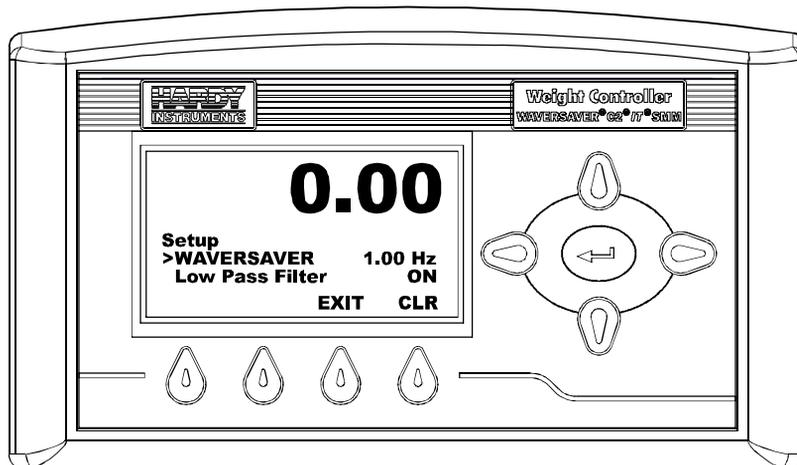

FIG. 73 SETUP MENU/SELECTING WEVERSAVER
Step 1. Press the Down Arrow button until the cursor is in front of WEVERSAVER. (See Fig. 73) The current WEVERSAVER setting is displayed.